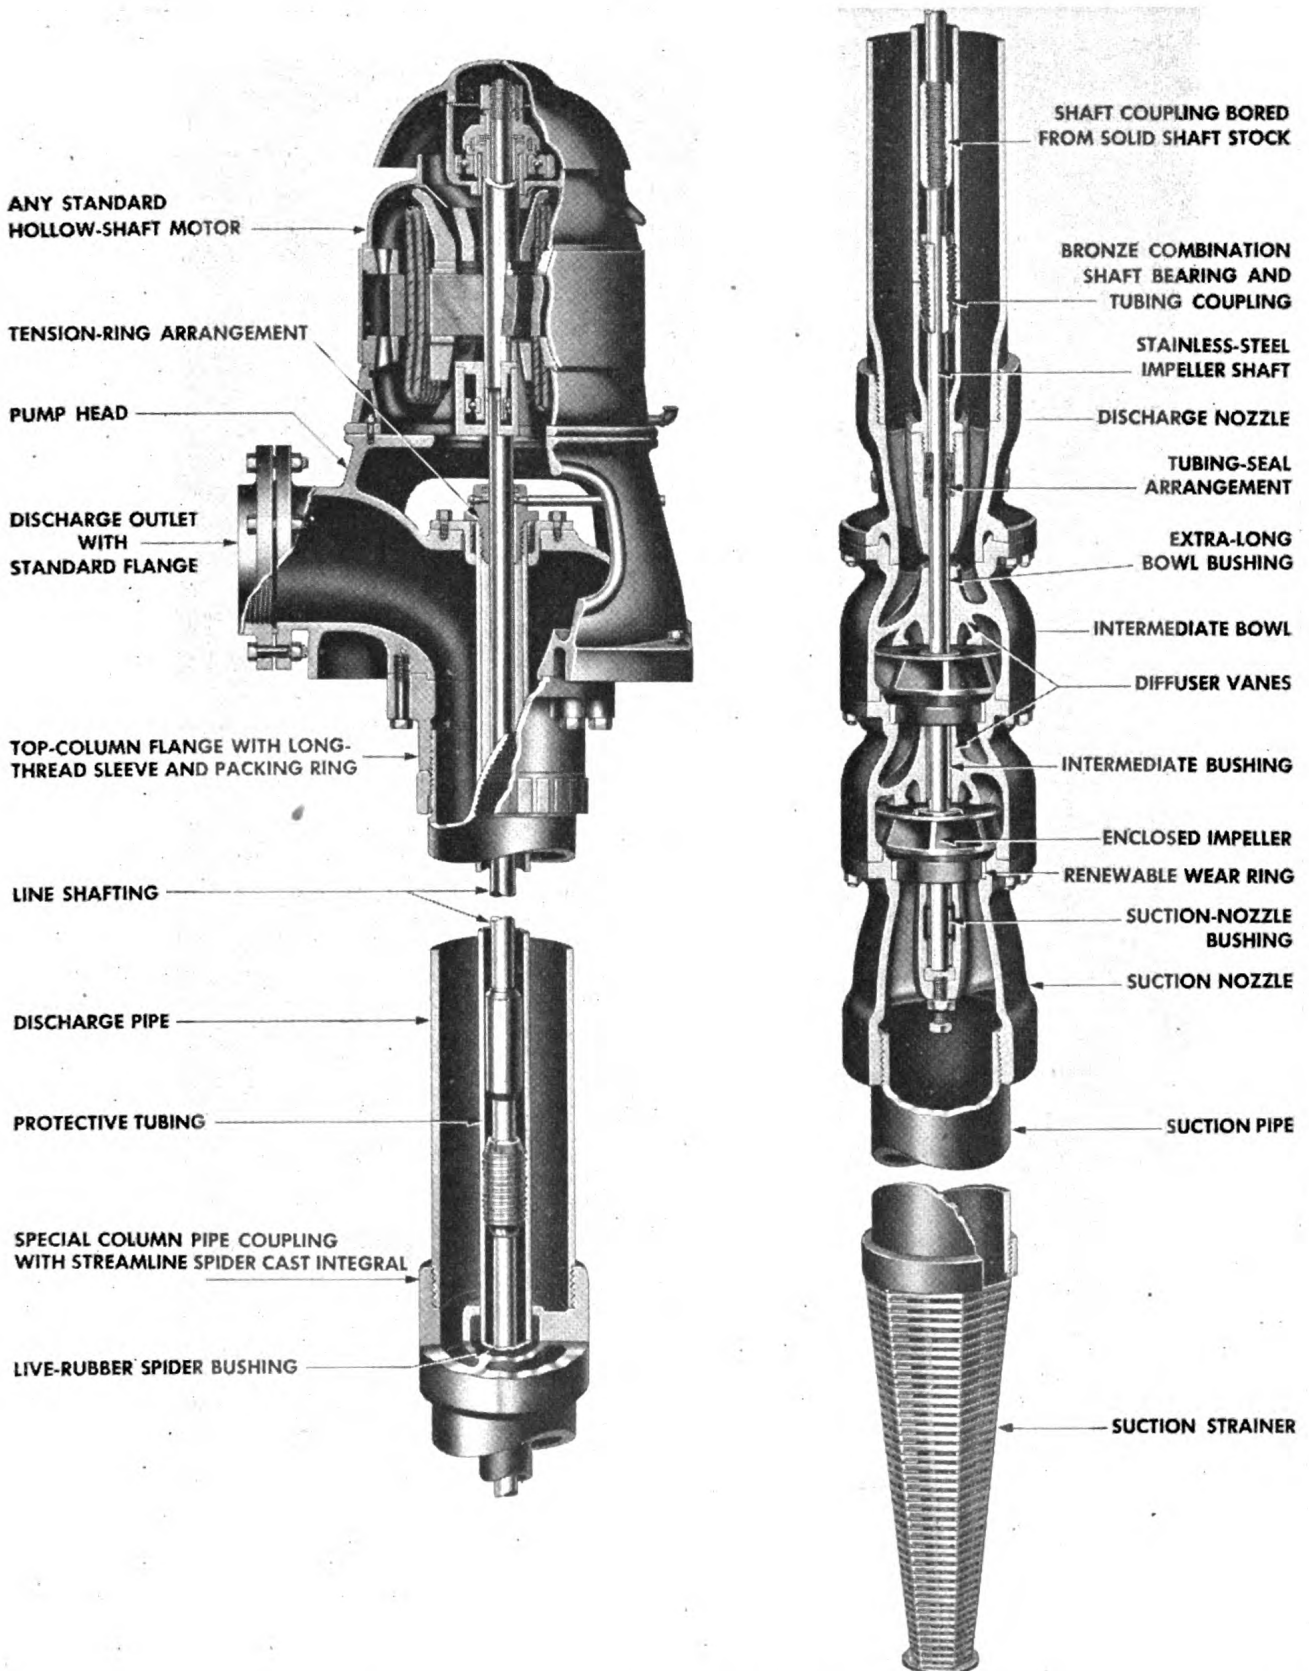

Figure 34. Inclosed-impeller deep-well pump, oil lubricated.
b. Adjust Impellers. Check impellers for maximum-efficiency setting and adjust if necessary. On hollow-shaft motors, adjusting nut is on top of motor. See manufacturer's instructions for detailed adjustment. Method of adjusting impellers on typical pumps is given below. (See also *i* (4) and (5) below.)
(1) *Closed impeller pumps with sealing rings.* See typical inclosed impeller pump shown in figure 34. Raise shaft by turning adjusting nut until shaft can no longer be rotated freely by hand. Back off nut and lower shaft one-fourth to one-half the total vertical clearance of pump. In an extremely deep well, adjust impellers again if necessary after first few hours of operation.